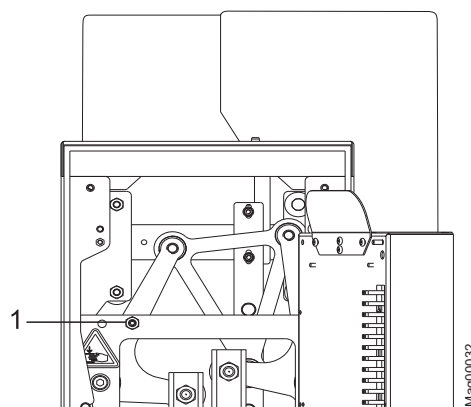

Fig. 34: Drive unit of the left end housing
1. Stick the glass wing into the appropriate clamping strip. Secure the glass wings against falling down by the help of a second person. Refer to Page 94, Fig. 34.
4. Take the drive unit off its block. Loosen fixing screw. Refer to Page 94, Fig. 34. Make sure that the counter nut is tightened again to prevent unintended turning of the fixing screw.